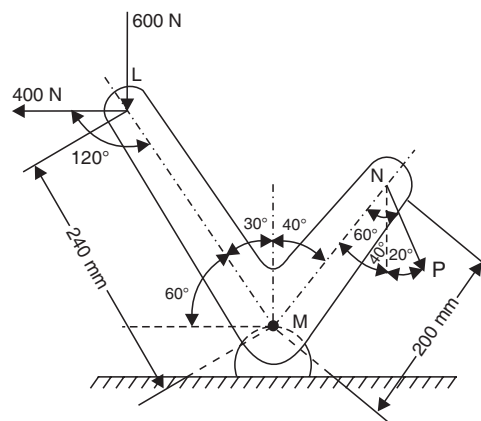

Fig. 3.39
**Example 3.10.** The lever LMN of a component of a machine is hinged at M, and is subjected to a system of coplanar forces as shown in Fig. 3.39. Neglecting friction determine :